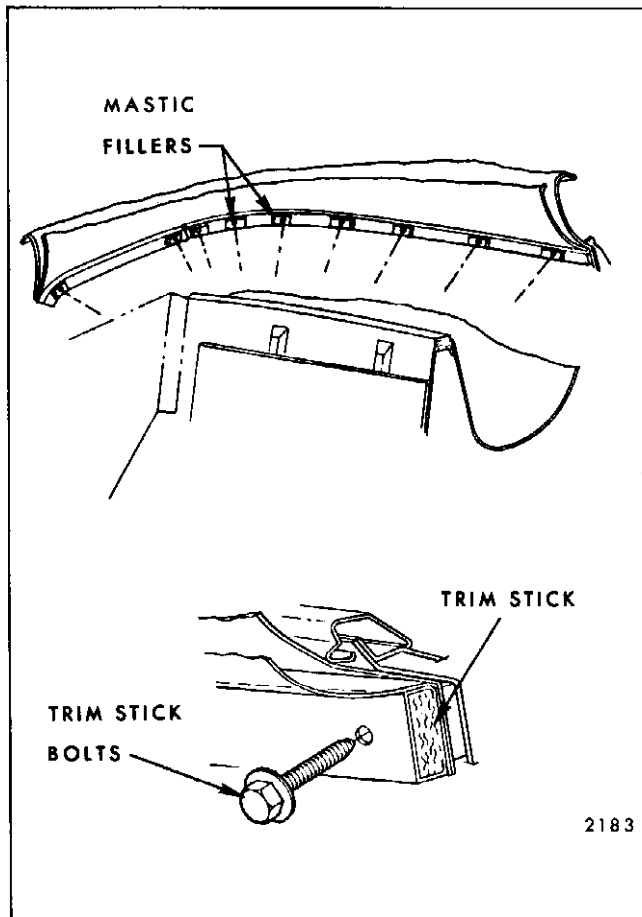

Fig. 13-19 — Checking Trim Stick Fillers
12. Inspect mastic type trim stick fillers to body below pinchweld for sufficient seal at bolt holes (Fig. 13-19).